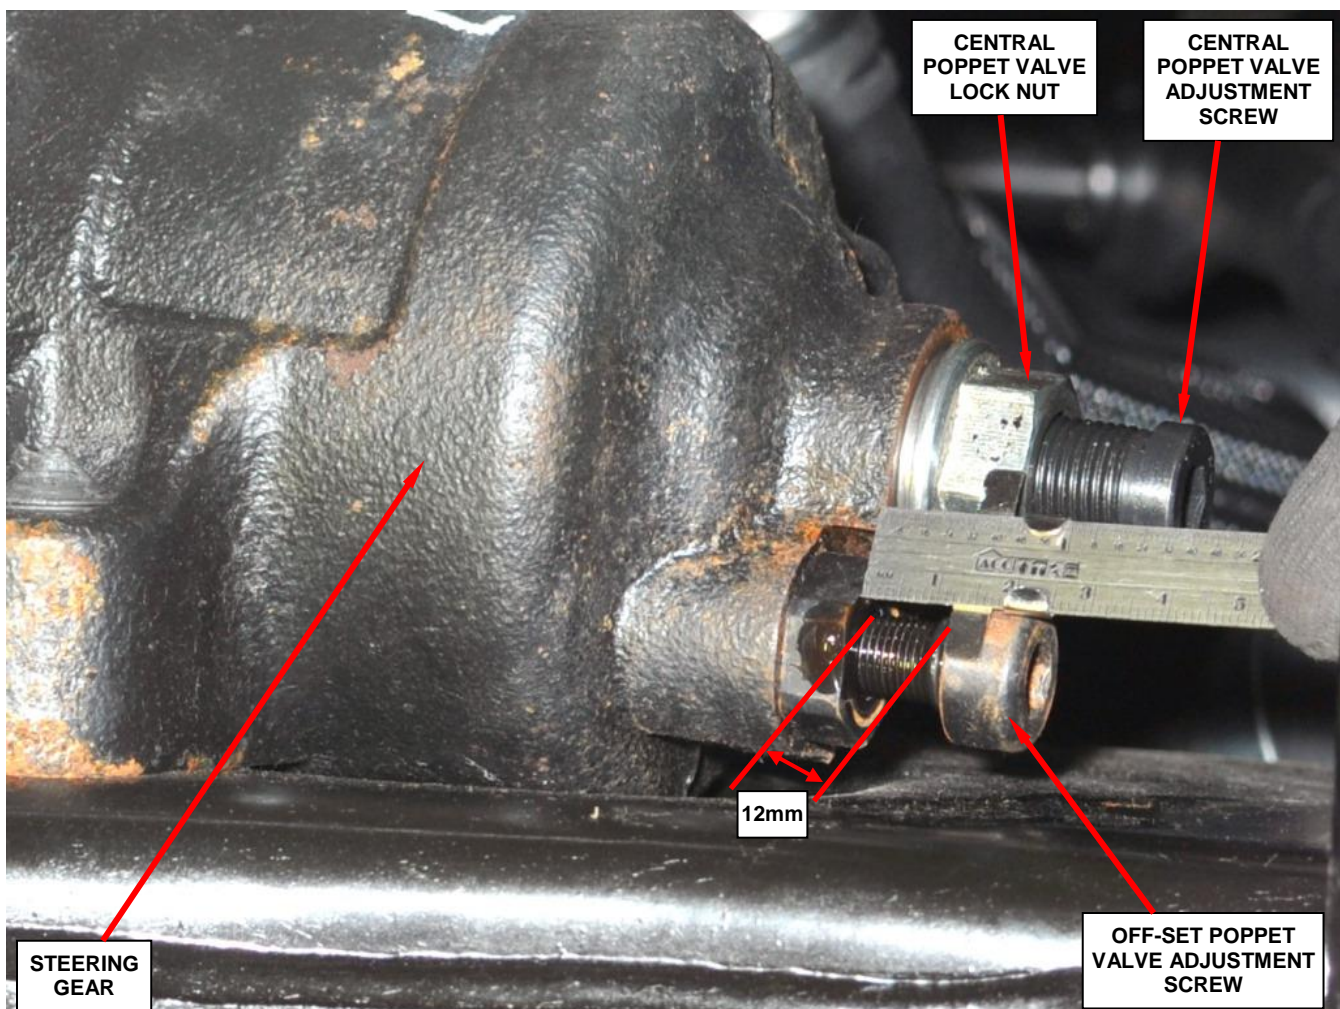

Figure 16 – Steering Gear Off-Center Poppet Valve Adjustment
- a. Loosen the off-center poppet valve adjustment screw until 12 mm of the screw is exposed (Figure 16).
- b. Tighten the off-center poppet valve adjustment screw to 48 ft. lbs. (65 N·m) (Figure 16).